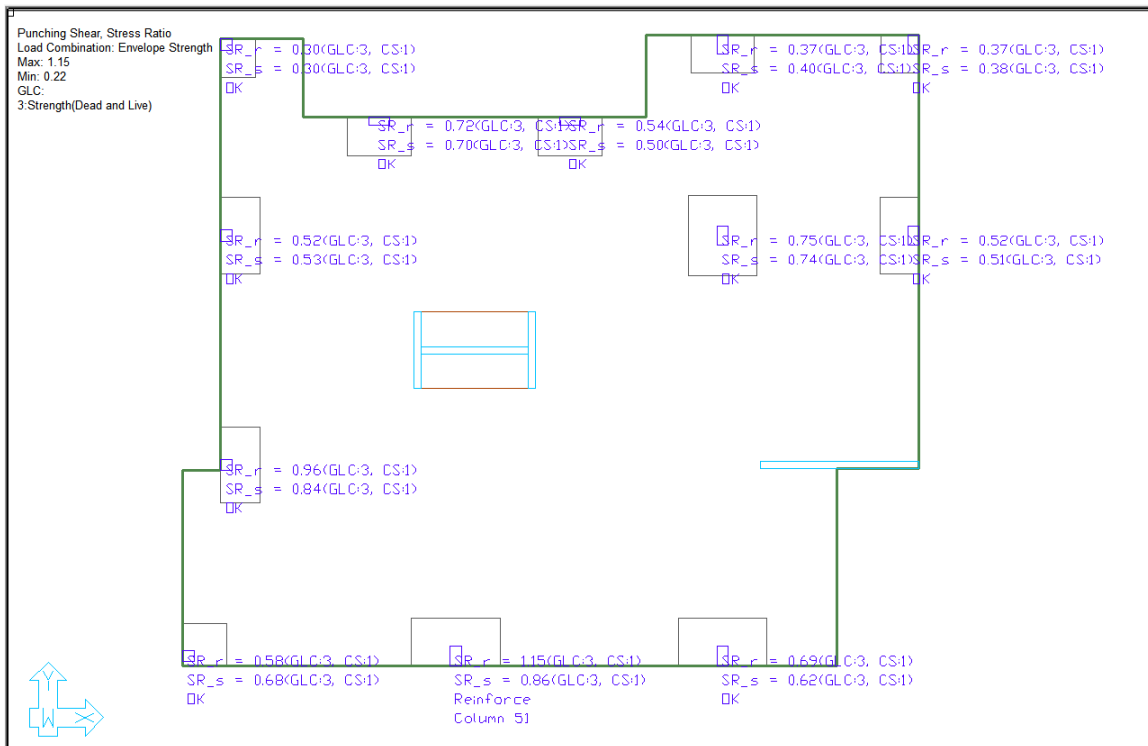

FIGURE 10-23
- Your screen should look as shown in **FIGURE 10-23**.